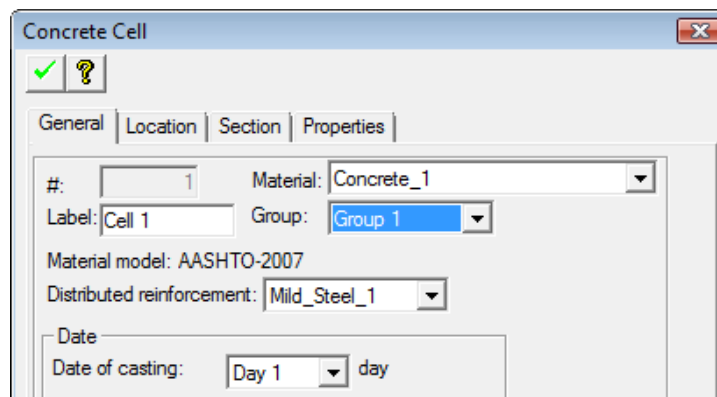

FIGURE 2.14-3 CONCRETE CELL PROPERTY BOX
- Click on the Create Cell  tool. The segment's property box opens as shown in **Figure 2.14-3** (if this is the option you have selected in the General Settings tool).